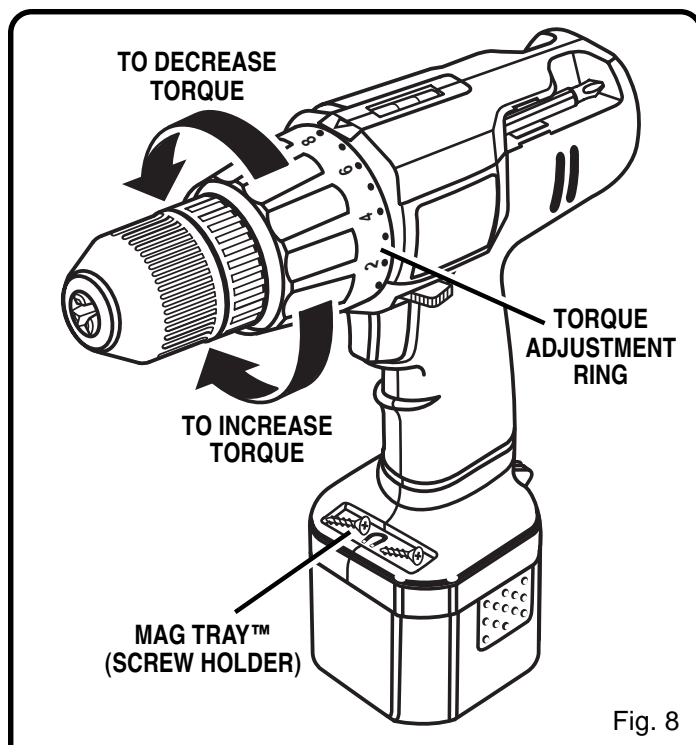

Fig. 8
See Figure 8.
The torque is adjusted by rotating the torque adjustment ring. See Figure 8. The torque is greater when the torque adjustment ring is set on a higher setting. The torque is less when the torque adjustment ring is set on a lower setting.
- Identify the twenty four torque indicator settings located on the front of your drill. See Figure 8.